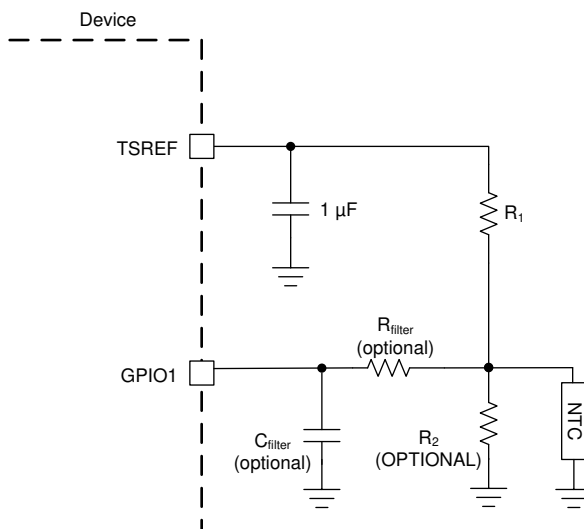

图 8-5. Thermistor Connection
图 8-5 shows the thermistor circuit when GPIO is enabled for thermistor measurements. MCU ensures TSREF is enabled by setting *CONTROL2[TSREF_EN]* = 1 and settled before taking the measurement value.
- $R1$ is the pull-up resistor as shown in 図 8-5 with the assumption the $R2$ is not used